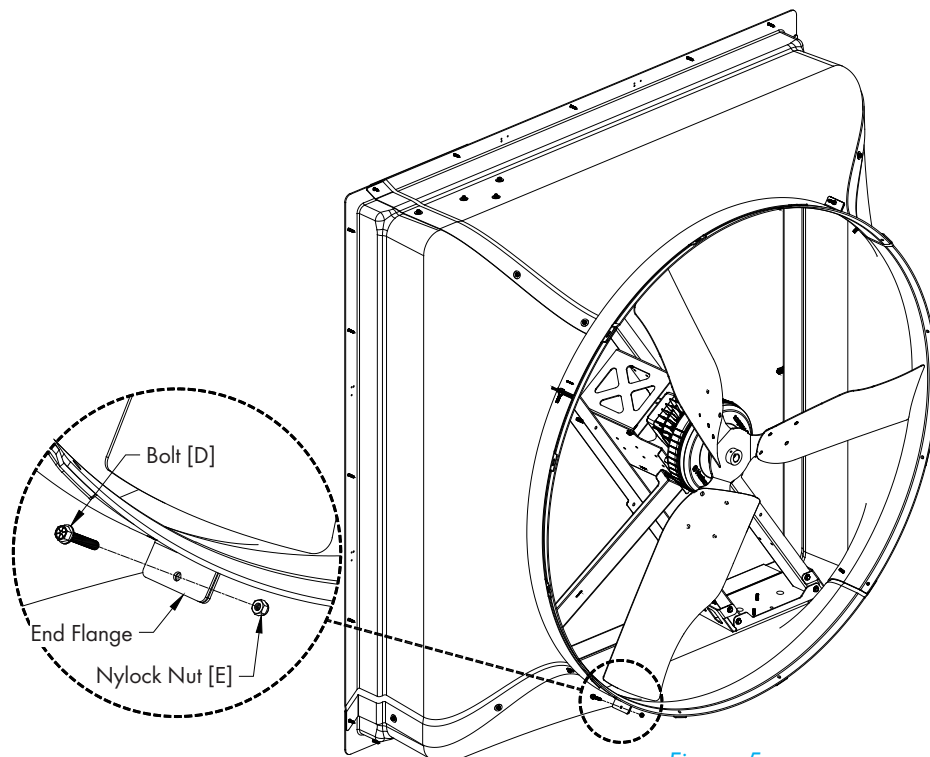

Figure 5
Wrap the Reinforcing Rings around the outlet orifice of the fan and align the slots in the tabs with the holes in the orifice and secure the final End Flanges together using (1) Bolt [D] and Nylock Nut [E]. *See Figure 5.* Do not fully tighten the last bolt and nut at this time.